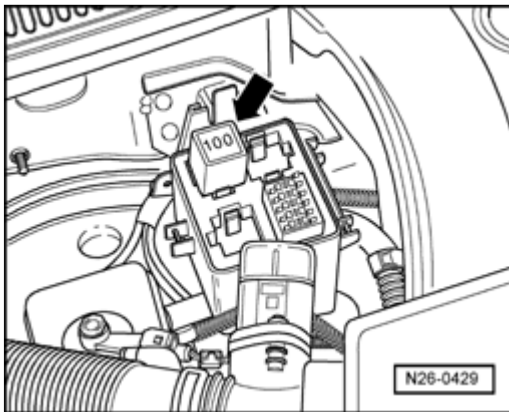

Fig. 374: Secondary Air Injection Pump Relay -J299-, Control Number 100
- In protective housing for relays (engine compartment). See **Fig. 374 , Position of relays in protective housing (on left in engine compartment)**